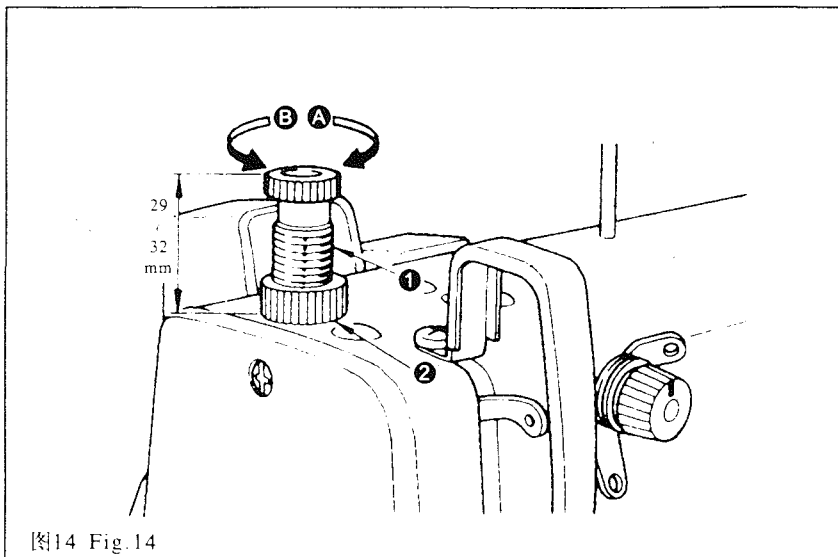

图14 Fig.14
10. 压脚压力的调节(图14) 10. PRESSER FOOT PRESSURE (Fig.14)